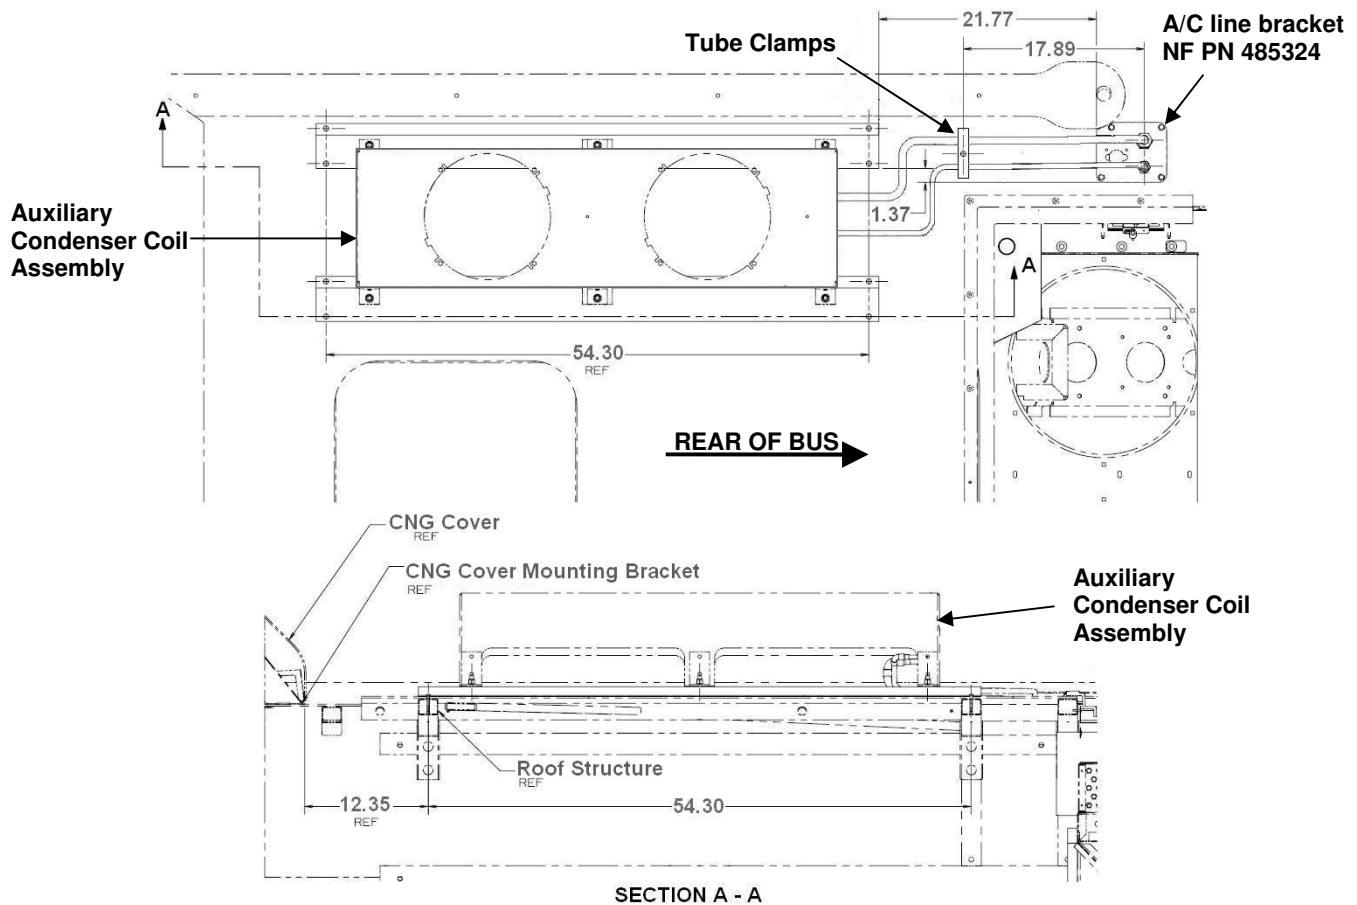

Figure 4: Auxiliary Condenser Location – Looking Down at the Top of the Bus
- e. Align assembly on roof by using bulkhead tube connection and dimensions shown in Figure 4.
- j. Place the lower tube clamp block (NF PN 486528), assembled with the 3/8 bolt, under the new copper tube assemblies in the location shown in Figure 4.